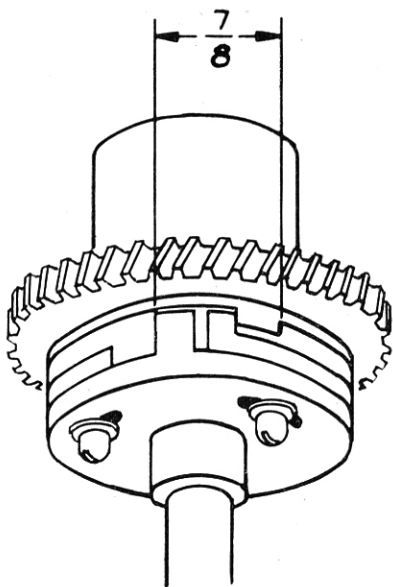

FIGURE 33—Travel
2. Place the floating worm wheel dog in contact with either one of the other two dogs (see Figure 33).